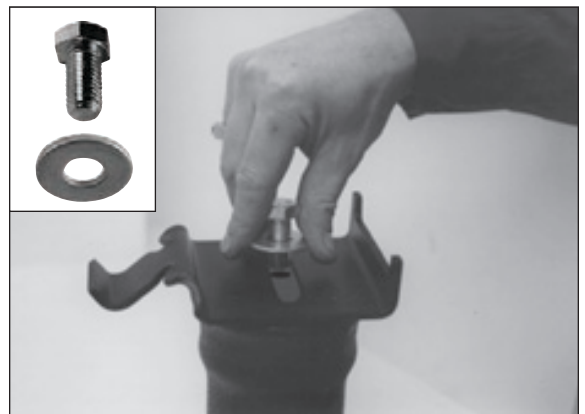

Figure 6
5. Loosely attach the lower bracket (C) to the bottom of the air spring with $\frac{1}{2}$ " flat washer (L) and $\frac{1}{2}$ " Hex Head Cap Screw (J). See Figure 6.